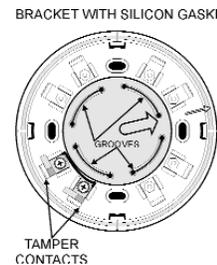

Figure 3
1. Remove cover from the detector body by loosening the lock screw about 5mm and turning the cover counterclockwise. (See Figure 3.)
4. Attach the detector body. Install the battery and place the detector body so that the arrow is aligned with the dot on the bracket. Turn clockwise until the arrow on the body aligns with the arrow on the bracket. (See Figure 3.)